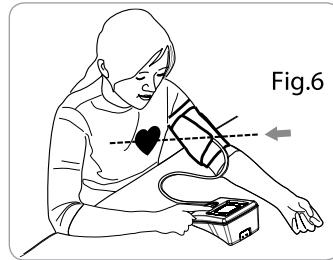

Fig.6
- Lay your arm on a table (palm upward) so the cuff is at the same height as your heart. Make sure the tube is not kinked (Fig. 6).